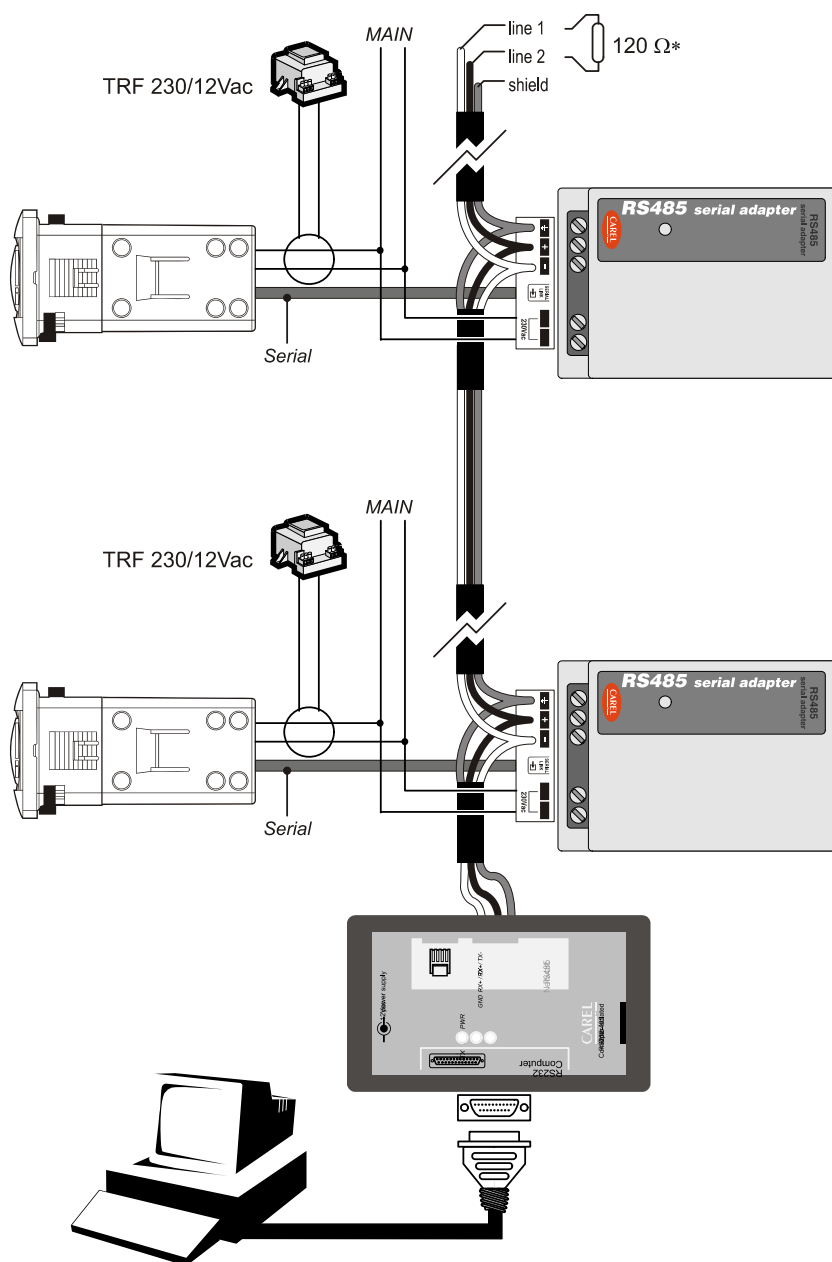

Fig. 8.2.1
- 230Vac mains power connections to terminals 1 and 2, as in Figure 8.2.1 (indicated by **230Vac** on the module);
- RS485 serial connection on terminals 3, 4, 5 as in Figure 8.2.1 (indicated by **—**, **+** and **$\frac{1}{2}$** on the module).